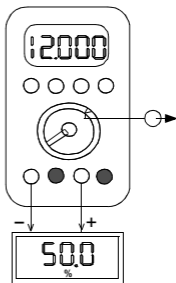

Figure 22 Connection of the Measurement Leads
- ⇒ Connect the item under test by means of the measurements accordance with Figure 22.